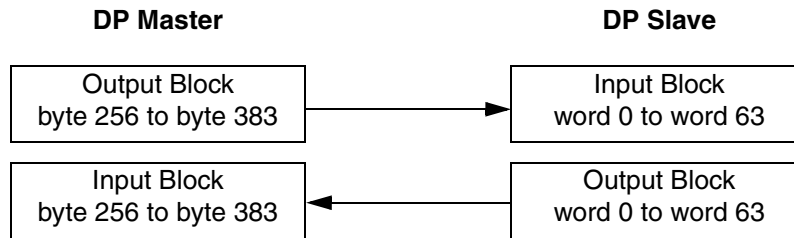

FIG. 48: Master/Slave Exchange
- This results in a range from word 0 to word 63. FIG. 48 illustrates this exchange.
NOTE: FIG. 48 has no connection with the Input Block and Output Block in Graco Gateway. The terminology used in the tags configuration is from the PLC point of view (DP Master). Refer to **Graco Gateway Setup** for more information.